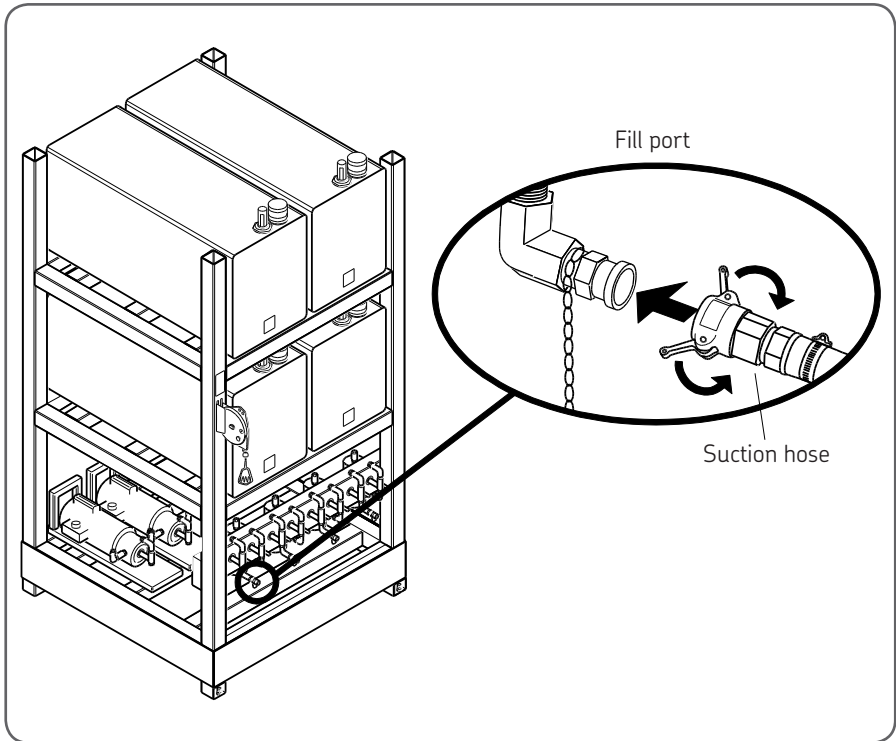

Fig 21 Attach suction hose assembly to fill port inlet
4. Attach the coupling-end of the suction hose assembly to the front of the unit. See figure 21.